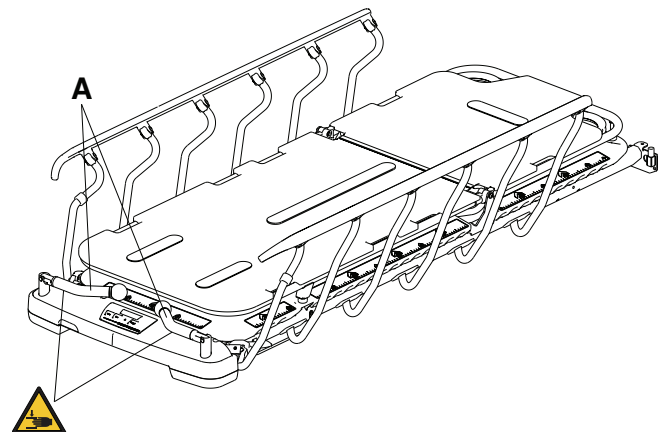

Figure 13 – Stowing the foot end push handles
3. Reverse steps to stow the push handles (A) (Figure 13).